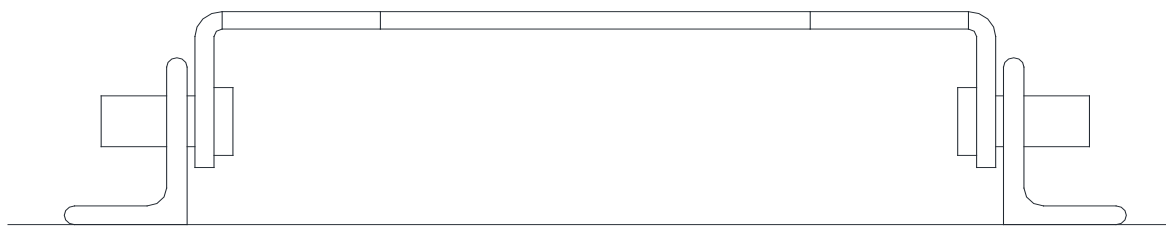

Figure 12.1 – Angle Bracket Kit, Type 5 DMI and 6 DMI
Position the angle bracket kit onto the outside face on the operator bracket as shown in **Figure 12.1**. Fasten using the (4) 1/4-20 x 3/4 button head screws, and nuts.